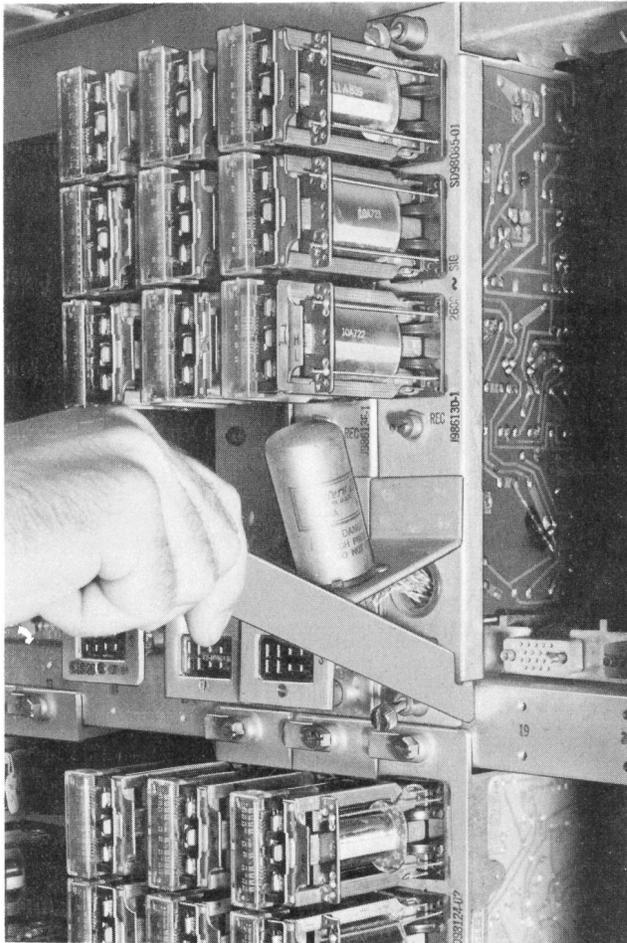

Fig. 1—Method of Removal of Fabricated Chassis
3	Remove signaling unit from its service position, using 725A tool, as shown in Fig. 1 or 2.
- 3 Remove signaling unit from its service position, using 725A tool, as shown in Fig. 1 or 2.